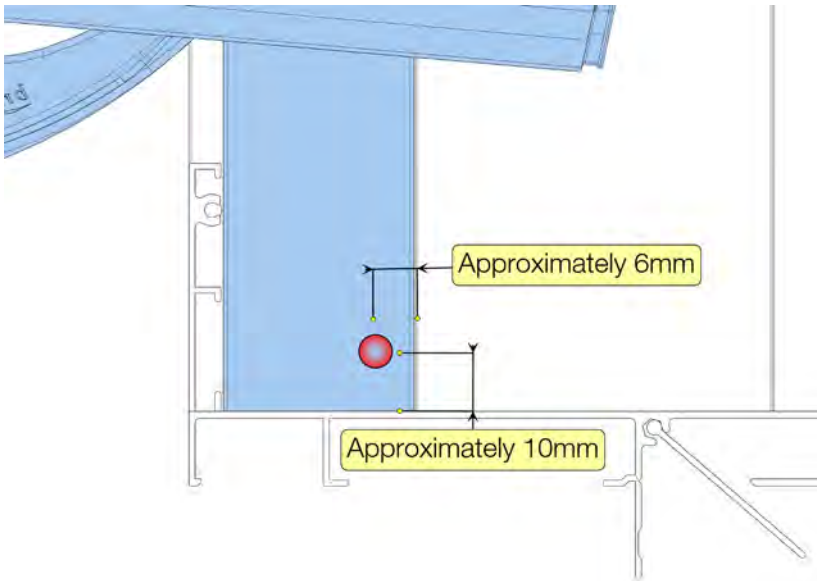

Fig. 23.4.1.1-1.4
9. As the same time of this lever action, strike the inside corner of the channel with a soft face mallet to aid in decoupling the snap fit between the channel and the jamb. Refer to Figure 23.4.1.1-1.3.